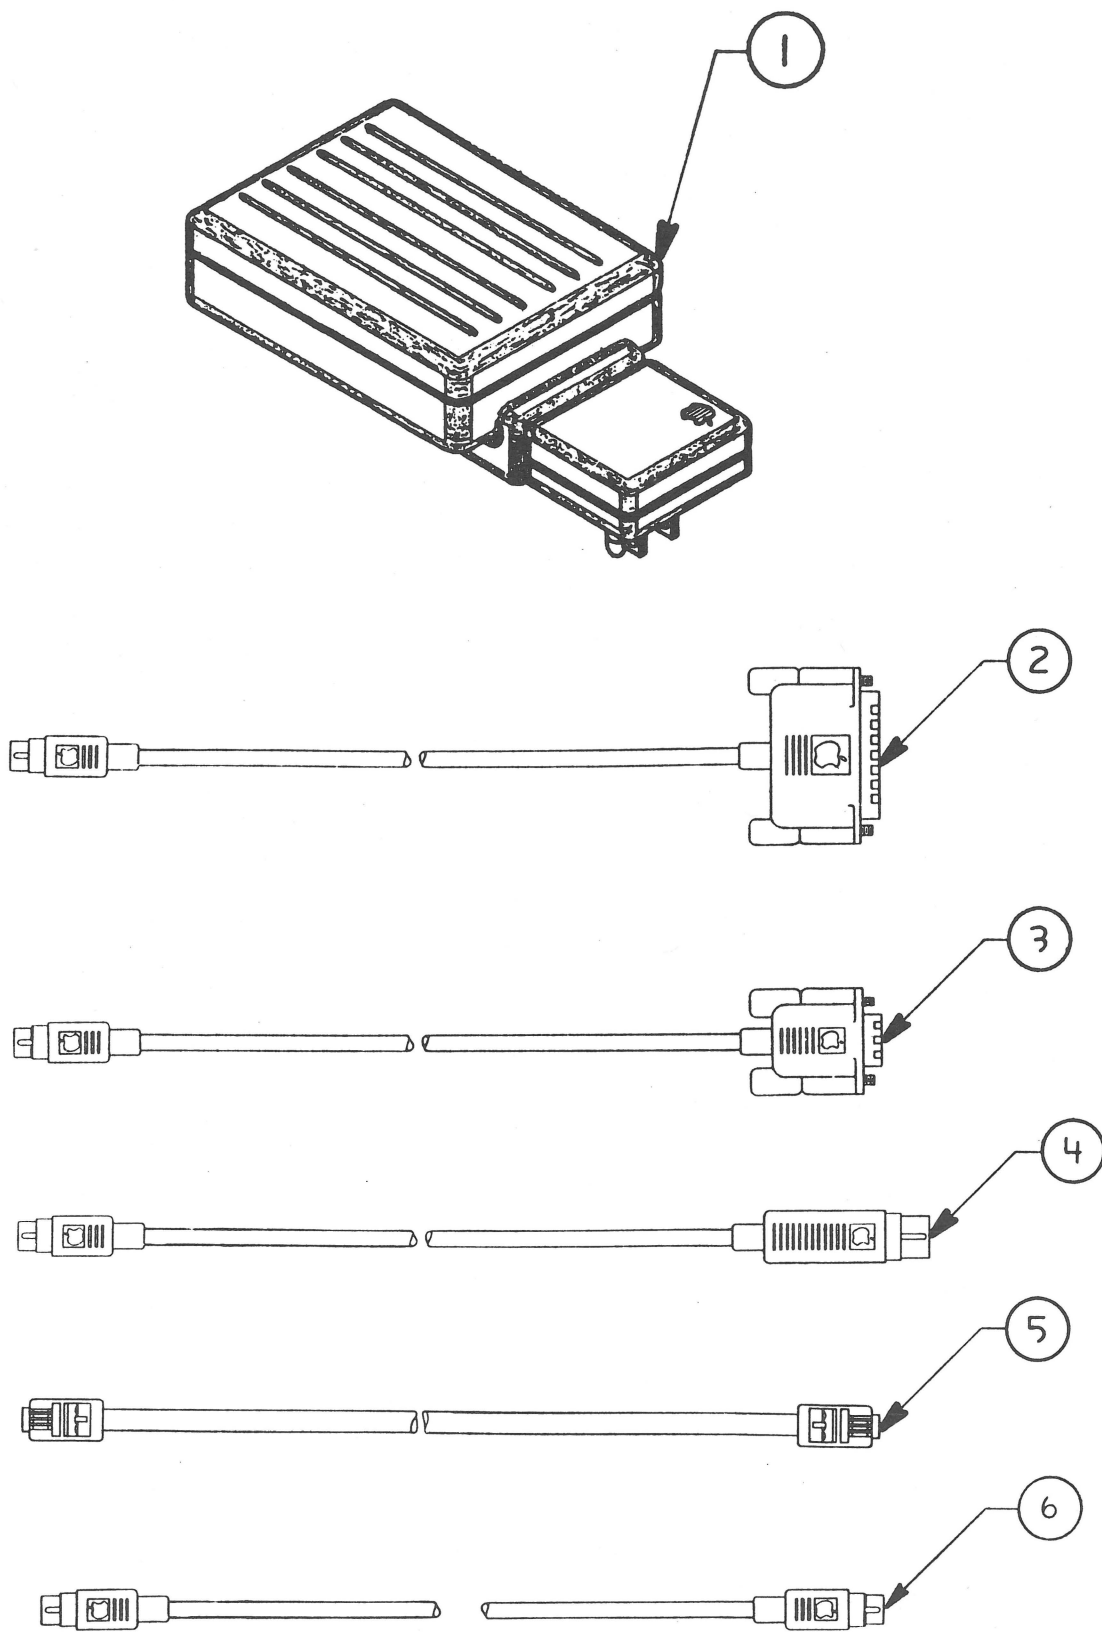

FIGURE 3
- IPL.7 Apple Personal Modem and APM Modem Cables (Figure 3)
□ APPLE PERSONAL MODEM AND APM MODEM CABLES (Figure 3)